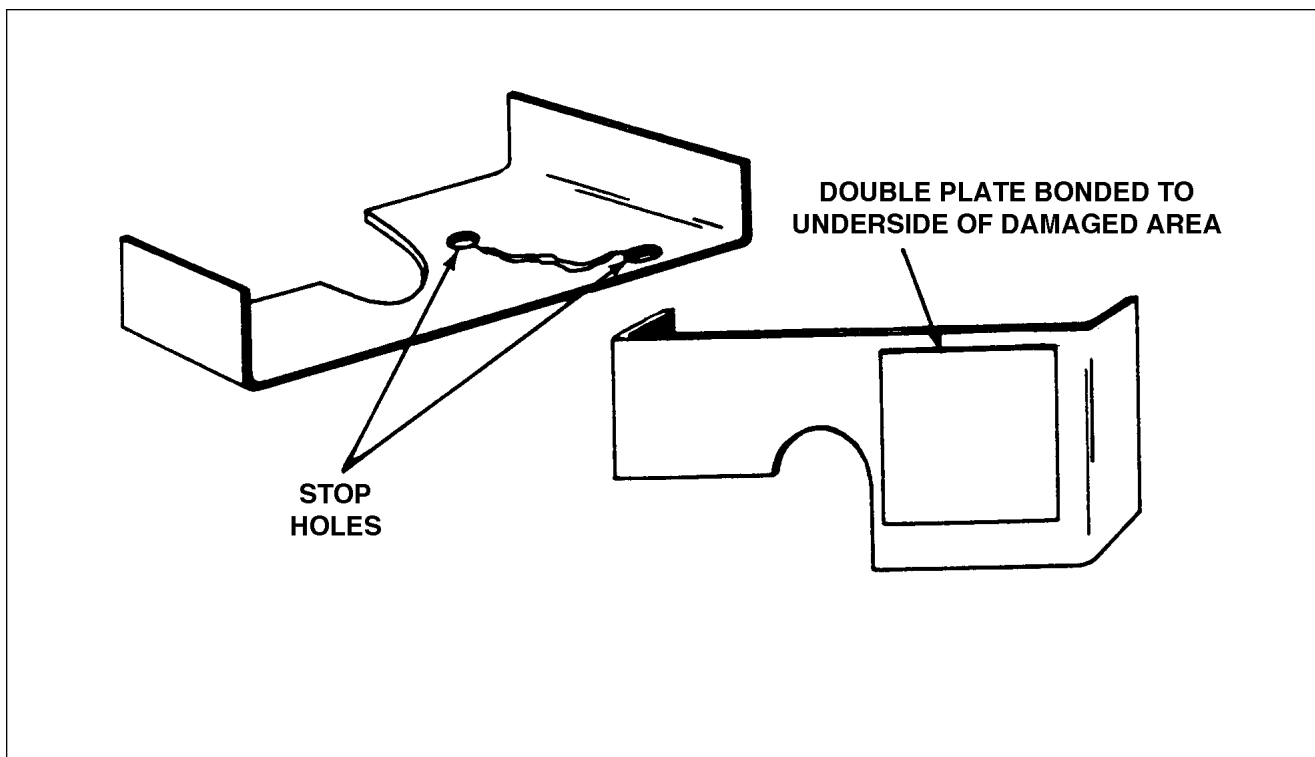

Figure 4-18. Repairing of Cracks
d. Cracks: (Refer to Figure 4-18)